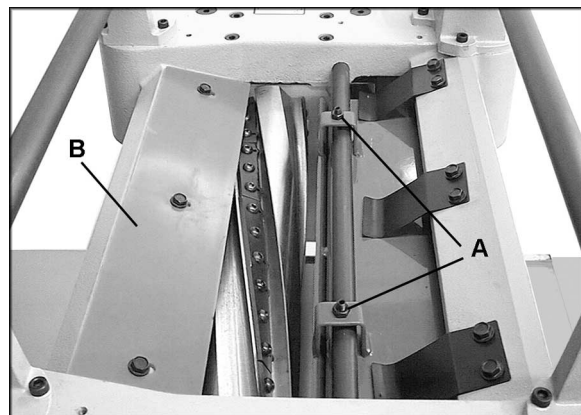

Figure 28
2. Remove the dust hood and the top cover. Remove the chip deflector (Figure 28 shows the chip deflector). Remove the belt guard so you can rotate the cutterhead using the pulley.
2. Loosen the lock nuts (A, Figure 28) at both ends of the chipbreaker, and turn the set screws to raise or lower the chipbreaker as needed. The set screws should be turned the same amount.
3. When the chipbreaker contacts the gauge block, tighten both lock nuts (A, Figure 28).
The chip deflector (B, Fig. 28) keeps wood chips from falling into the outfeed roller. The deflector should be set approximately 1/16" to 1/8" from the tip of the knives. Make sure the deflector is oriented so the bevel on its front edge matches the shape of the cutterhead.